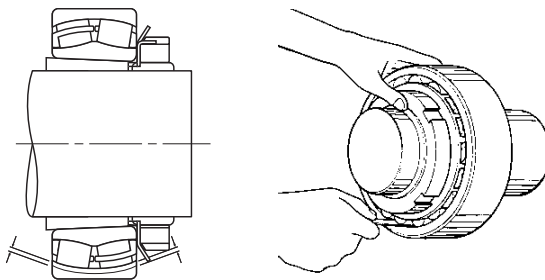

Fig 4. Checking bearing clearance with bearing mounted on shaft
6. Further tighten the nut until the clearance has been reduced by the amount shown in the chart in Fig. 2 but when the bearing is mounted on the shaft the clearance should be checked under the rollers at the bottom of the bearing as shown in Fig. 4.
7. Check bearing clearance as shown in Fig.4 to ensure the clearance is not less than the minimum permissible residual clearance shown in the chart in Fig. 2 for the size and clearance of bearing.